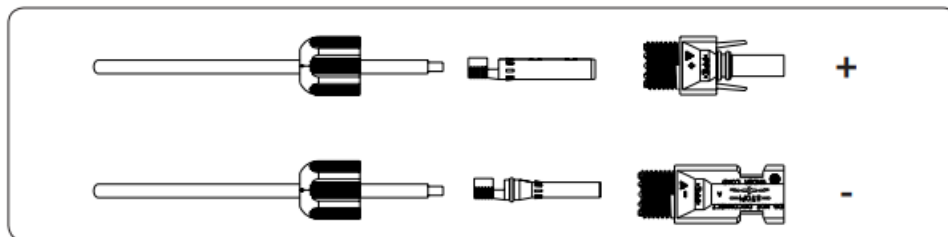

Figure 4-10
3. Disassemble the connector in the accessory bag, as shown in Figure 4-10: